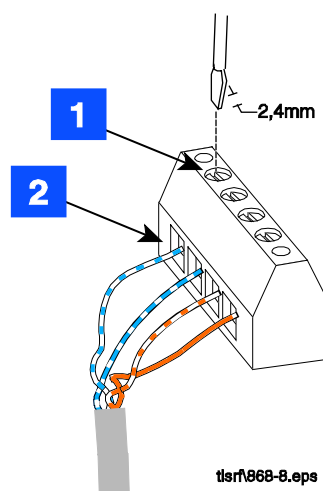

Figure 10. Connecting RS-485 Wiring
3. **NOTE:** Attach one end of RS-485 cable to RS-485 terminals in the TLS-RF and other end to RS-485 terminals in the receiver. One twisted pair connects to terminals (- & +) and the second twisted pair connects to terminals (+15 & G). You must connect each wire of each pair to the identical terminals in the receiver (e.g., white w/blue stripes to “-” and white w/blue stripes to “+”). (ref. Figure 24 on page 26). **NOTE:** see Figure 10 for wire connection tips.
LEGEND FOR NUMBERED BOXES IN FIGURE 10
NOTE see Figure 10 for wire connection tips.